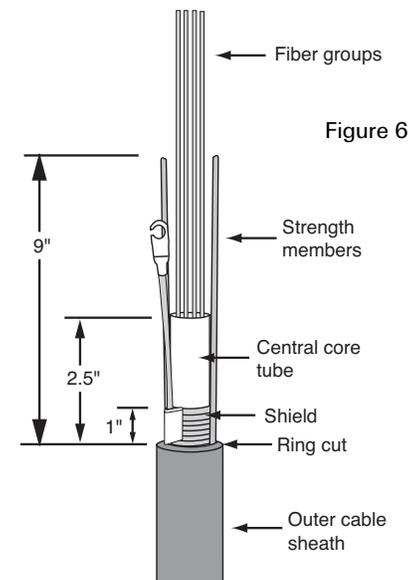

Figure 6
2. If dual strength members (e.g., LXE) or multiple metallic strength members (e.g., crossply) are present: expose each strength member and cut it off 9" from the ring cut. (Figure 6)
- If metal shield is present: Remove all but 1" of the metal shield. (Figure 6) Pry open a 1" tab in the exposed metal shield where the shield overlaps. Crimp the bond clamp onto the edge of the shield.
- Cut the central core tube 9" from the ring cut and remove the excess tube. (Fig. 6)